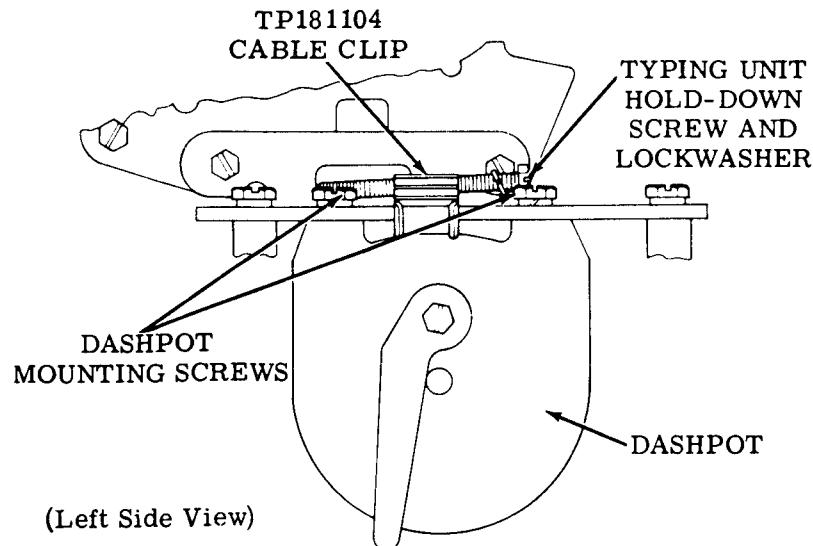

Figure 1 - Typing Unit Hold-Down Screw Storage
**Note:** Retain the forward mounting screw and associated flat washer. This screw is used to secure the typing unit when shipped to another location without its cover fastened in place. The screw and washer may be stored in the TP181104 cable clip (included in bag of hardware with pedestal mounted units) to be mounted on the typing unit frame between the two dashpot mounting screws (Figure 1).